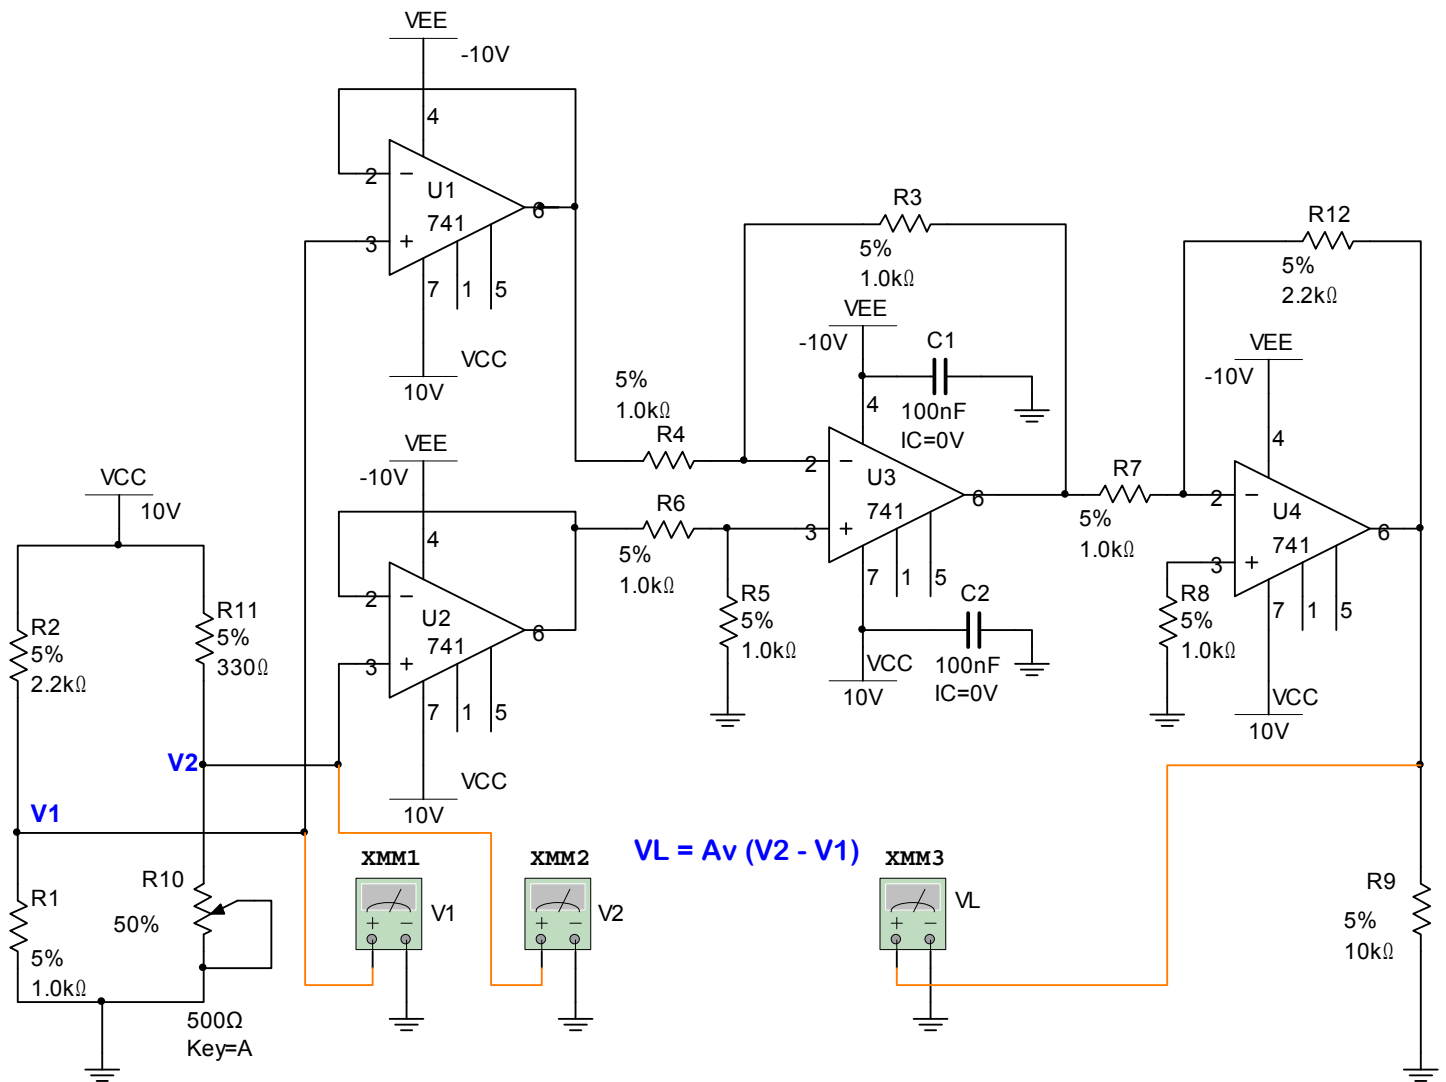

Figure 1-4. Schematic Diagram
1. Build the circuit indicated in Figure 1-4 in Multisim.